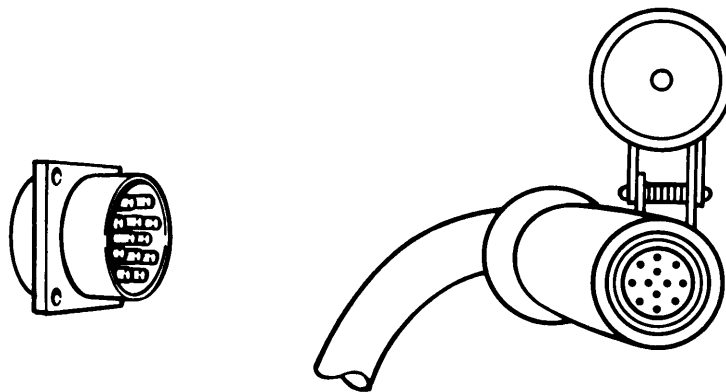

Figure 3-3. Electrical Connectors
- a. Use a soft cloth to remove any buildup of grease and dirt (fig. 3-3).